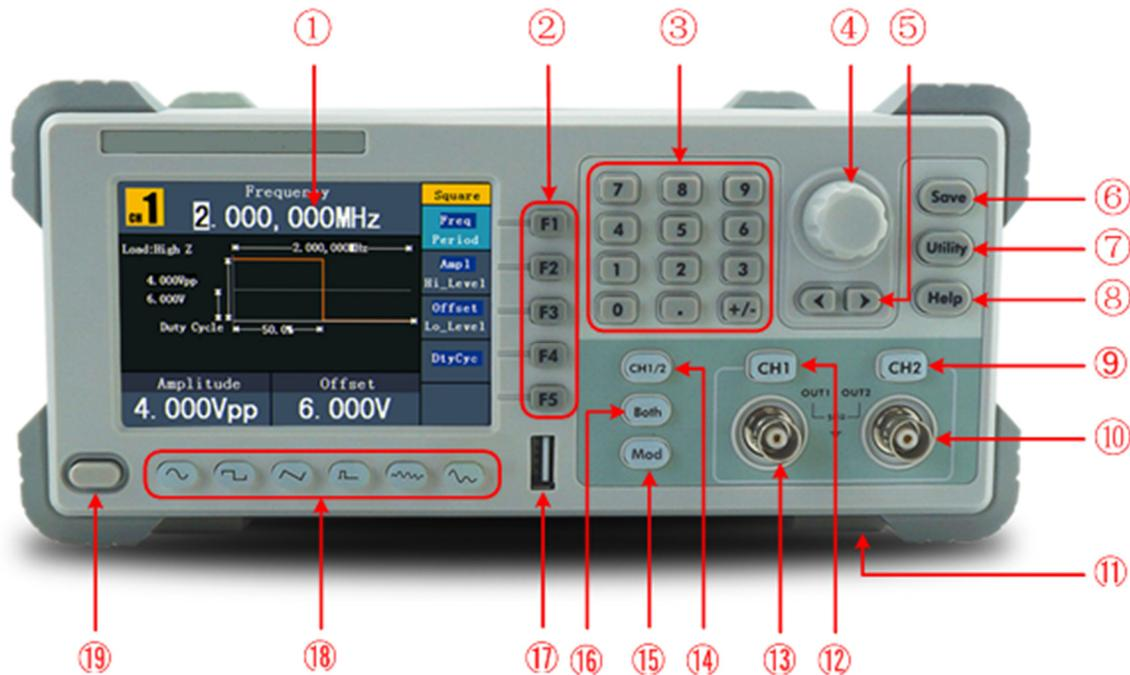

Figure 4-1 Front panel overview
Unfold the foot stools on the bottom of the generator, as shown in *Figure 4-1* (11).